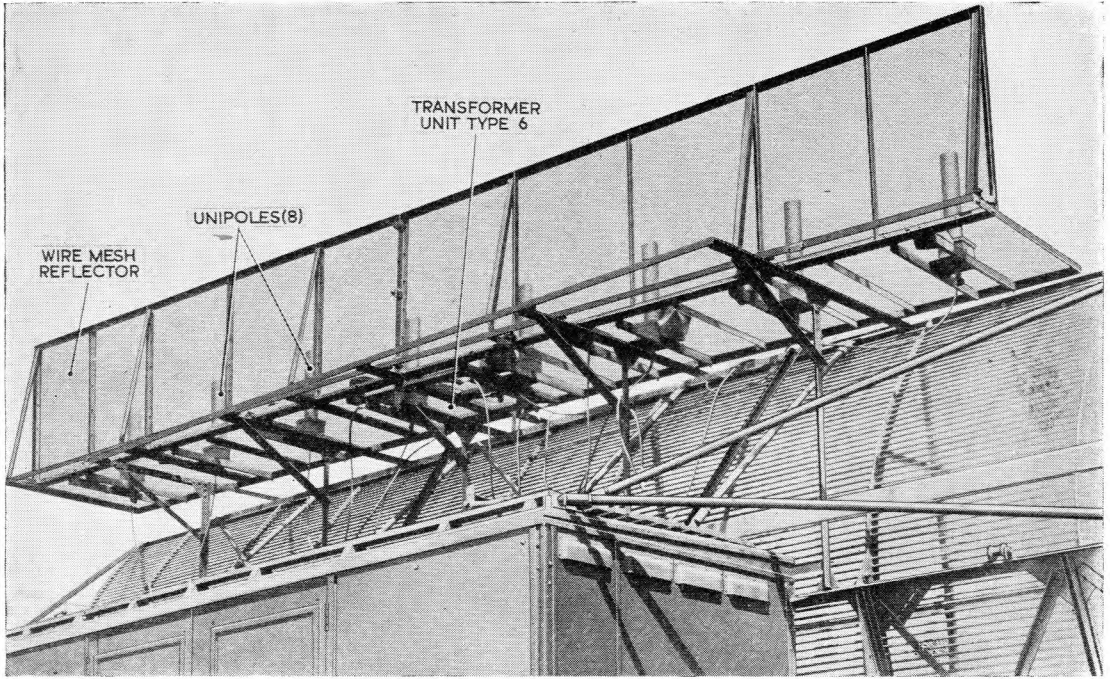

Fig. 19. R.V.462C : IFF aerial array
- (1) Remove all the equipment from the container roof except the IFF aerial framework.
- (2) Bolt the IFF aerial framework in position as shown in fig. 19.
- (3) Unpack the 10 unipoles from their stowage box inside the container and screw them into their sockets as shown in fig. 19.